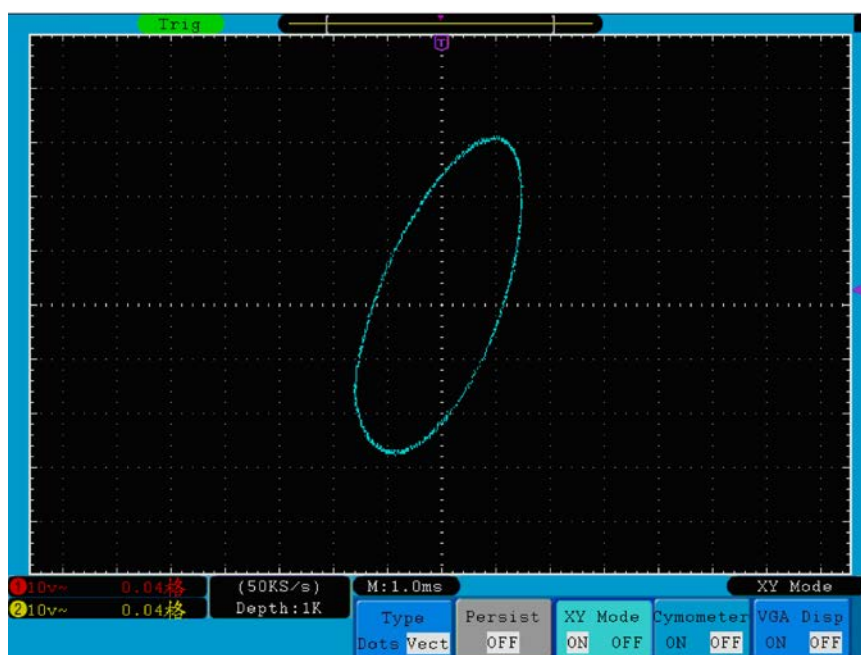

Fig. 46 XY Display Mode
2. Press the **H3** menu selection button to set XY Mode **ON**. The display format is changed to be XY mode (see **Fig. 46**).